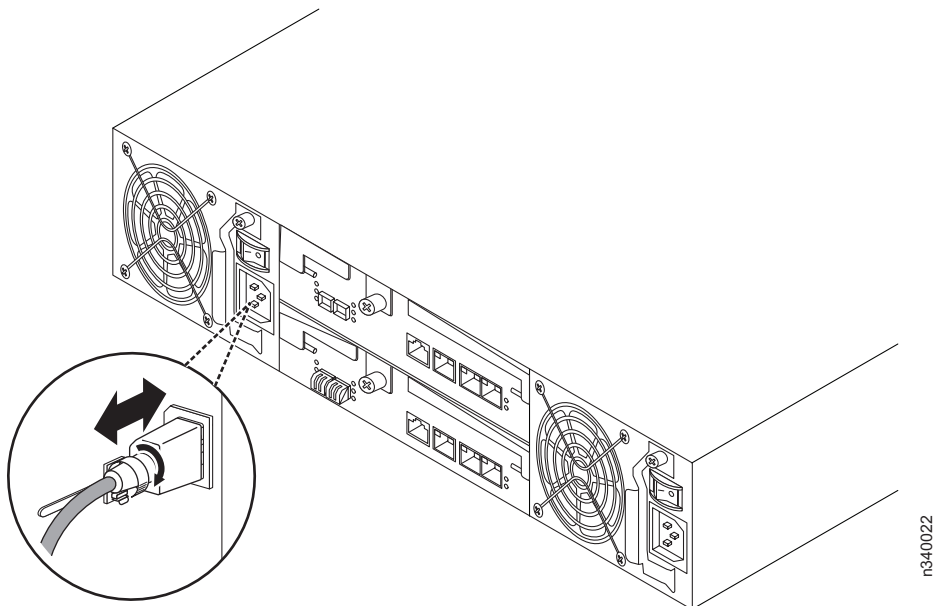

Figure 15. Using the power cord retention clip
2. Connect the power cords to all power supply 1 and power supply 2 power receptacles for all storage systems that are being installed using power cord retainer clips as shown in Figure 15.